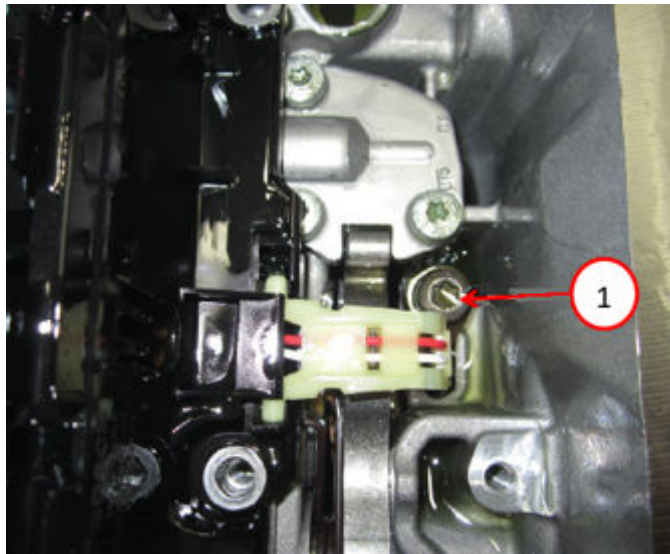

**Fig. 9**
13. Remove the valve body assembly end retainer bolts Fig. 9.